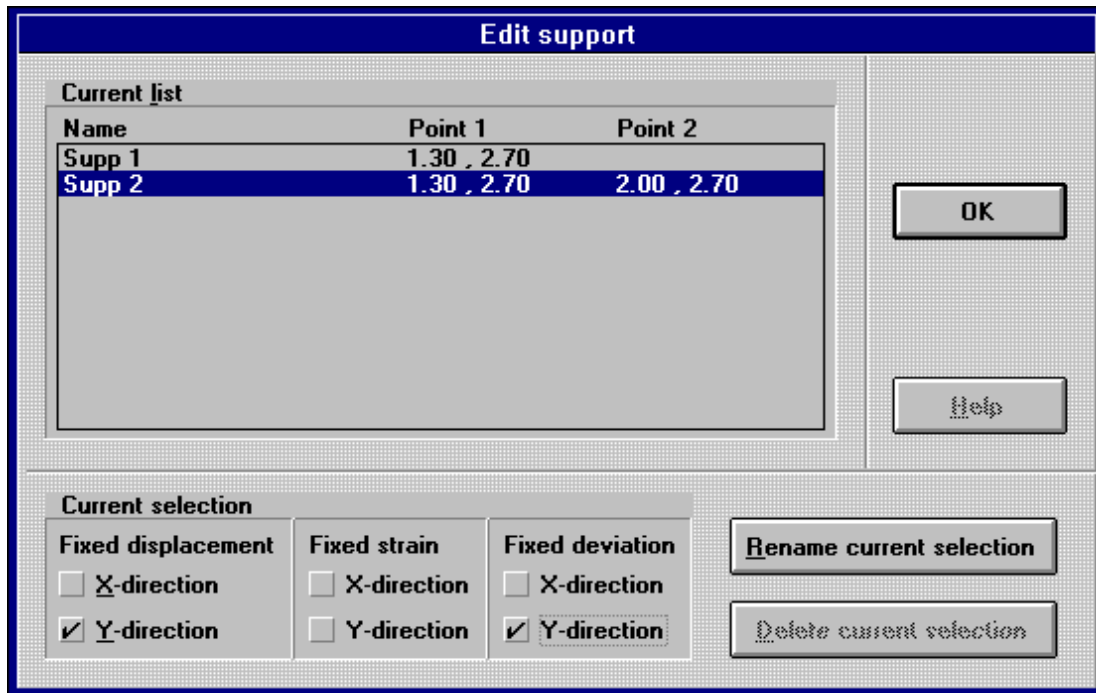

Figure 6.28
3. Click the Add Support  button. This makes the support dialog box appear. The support dialog box is divided into two subareas: The current list and the current selection. See figure 6.28 and the description below the figure.